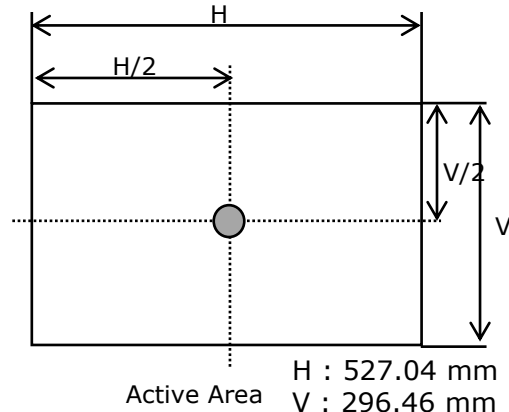

FIG. 7 Measure Point for Luminance
2. Surface luminance(L_{WH}) is luminance value at Center 1 point(P1) across the LCD surface 50cm from the surface with all pixels displaying white. For more information see FIG.7 (By PR880)
For more information see FIG.7